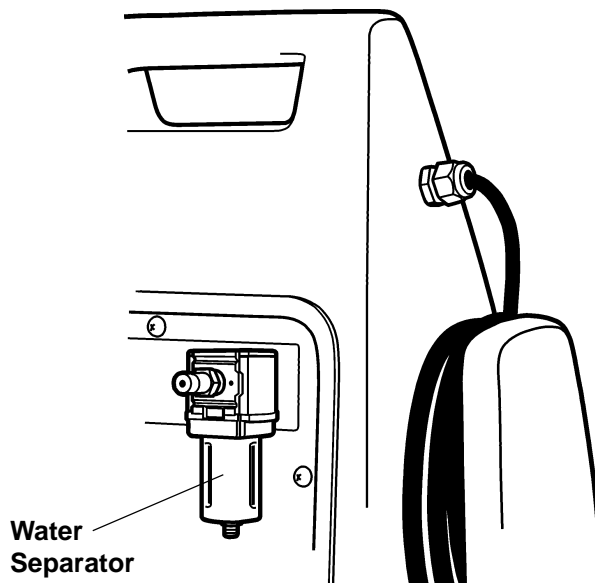

Figure 2
3. Depending on the tests you are performing, connect either a nitrogen or shop air supply line to the water separator located on the back of the tester. See Figure 2. Supply pressure must be between 50 psi and 125 psi.